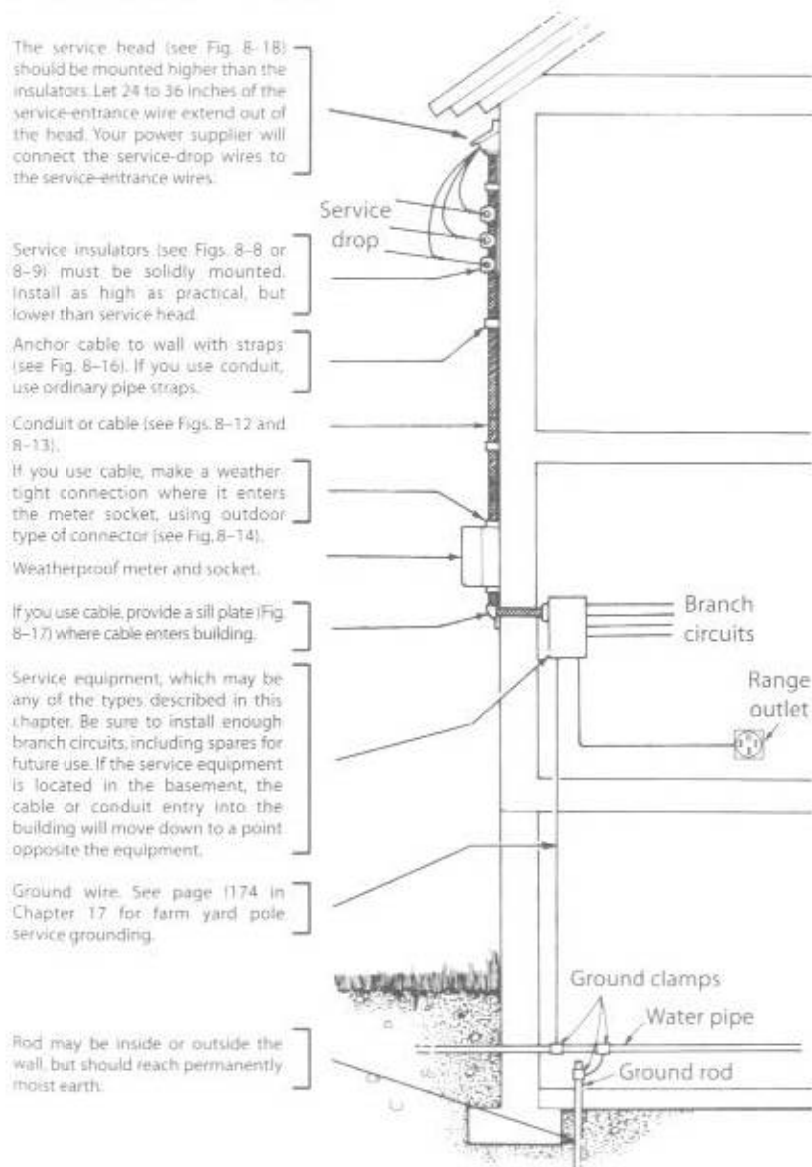

Fig. 8-6 A cross-sectional view of a typical service entrance.
These are the components of the service entrance (shown in use in Fig. 8-6).
So far we have looked at the major parts that make up the service entrance, and how to select the right kind and size of equipment. The rest of this chapter concerns the installation of these parts. Figure 8-6 shows the details of a typical service entrance.
**Insulators** The incoming service wires are anchored on service insulators installed on the building. They should be installed a foot or so below the highest practical point so the wires to the inside of the house, where they emerge from the service head on the conduit or cable, will slope downward toward the insulators to prevent water from following the service wires into the service head (see Fig. 8-6). Shown in Fig. 8-8 are the type of racks used in most localities, usually with 8-inch spacing between insulators (6-inch spacing is allowed in some localities). Individual screw-point insulators (Fig. 8-9) are often used instead of multiple racks.